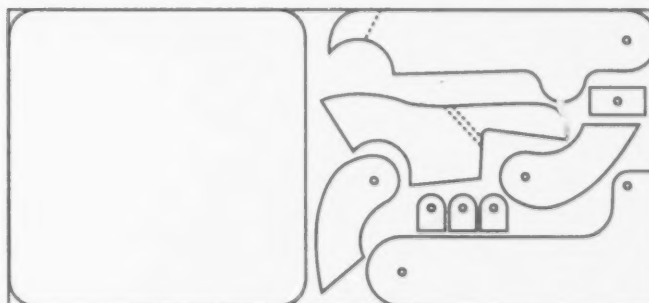

Figure 2 - Templates
3. Lay all patterns, except the circle, on the oblong piece of Styrofoam as shown in Figure 2. Careful planning avoids wasting materials. Lay circle pattern on 7" square. Draw around templates with a pencil or marker.